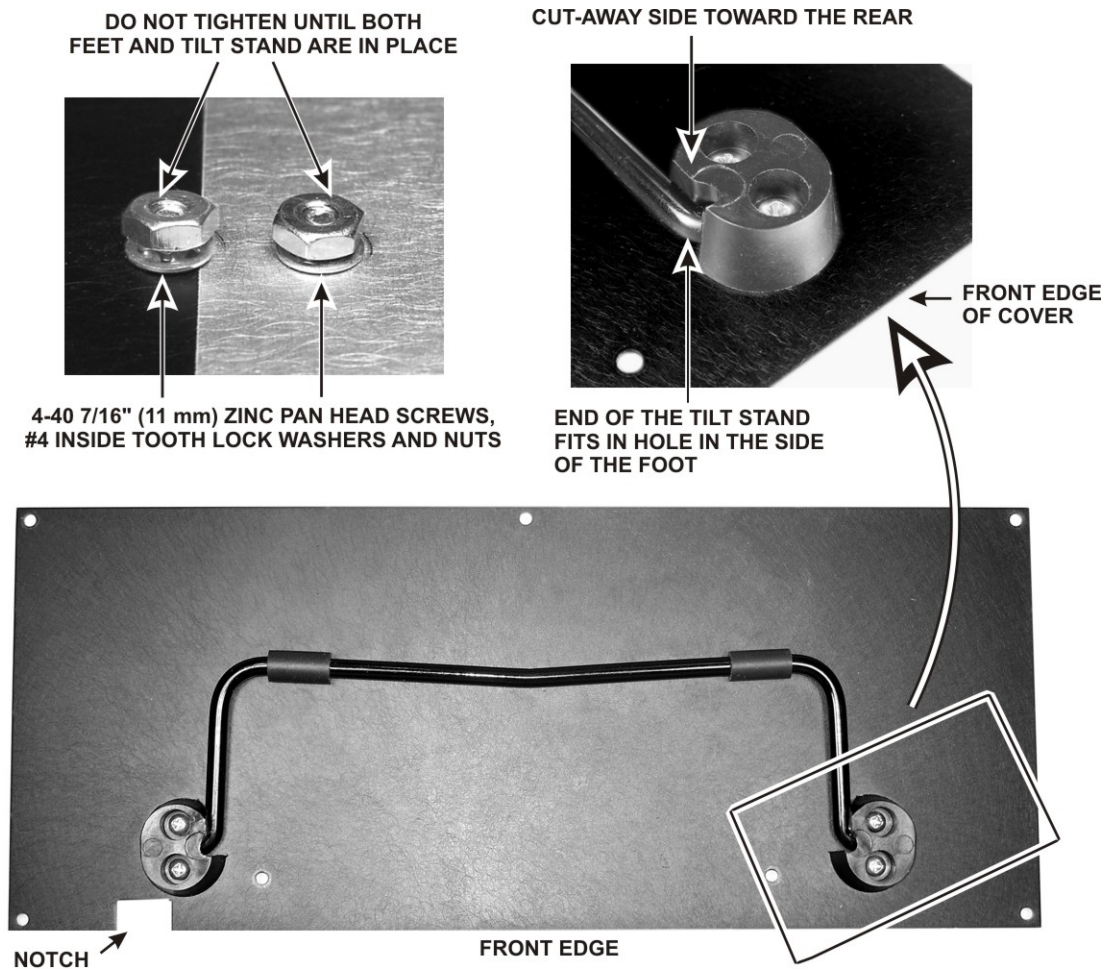

Figure 83. Installing Tilt Stand.
- Identify the bottom cover forward section by test fitting it on the bottom of the K3. The forward section is the thinner panel with a notch along one edge (see Figure 83).
- Attach one tilt stand foot to bottom cover section A as shown in Figure 83 using a 4-40 7/16" (11 mm) zinc pan head screw. The foot goes on the fully-painted side of the cover, oriented as shown. Be sure the cut-away side of the foot is farthest from the edge of the panel and the hole for the tilt stand faces the holes for the other foot. Use a #4 inside tooth lock washer and #4 nut to secure each screw. Do not tighten the hardware. Start the nuts onto the screws only a few turns so the foot is free to move about.